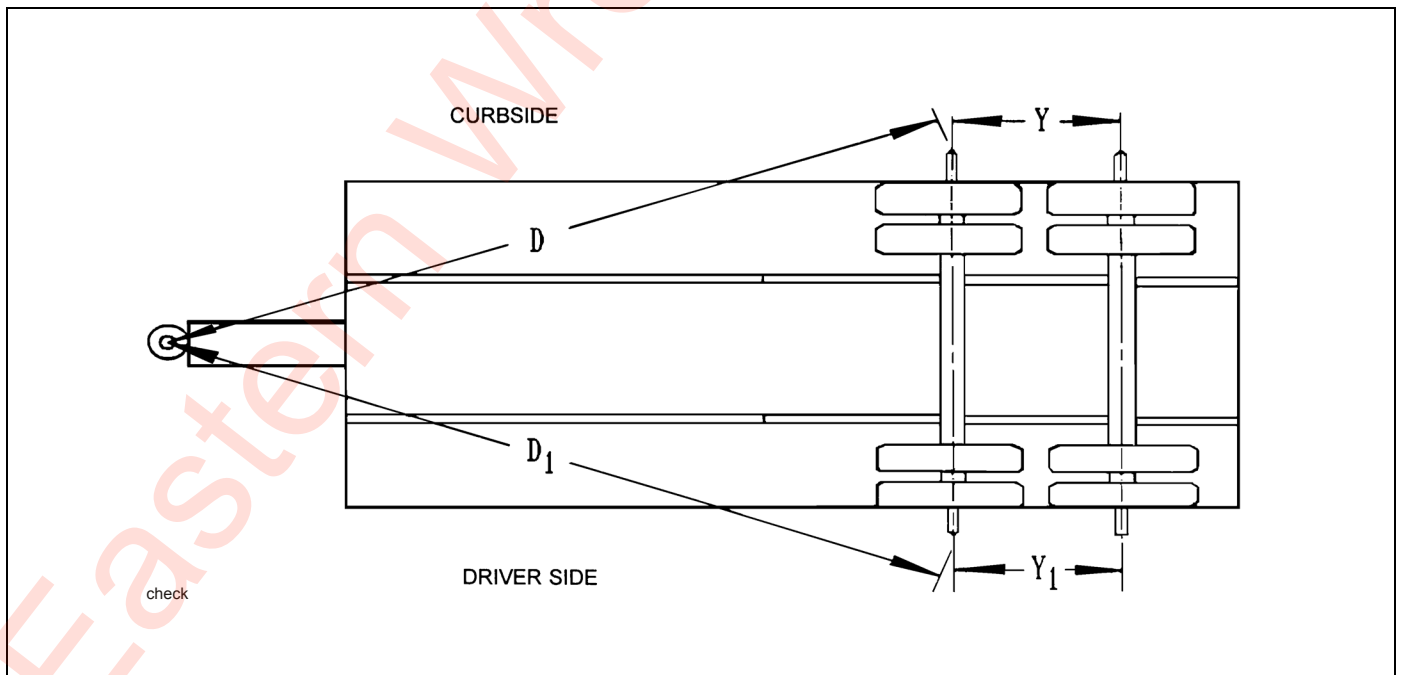

Figure 4-10: Checking Axle Alignment
4. Measure (D) from the plumb bob to the center point on one end of the axle. Record this measurement **(See Figure 4-10.)**
5. Measure (D1) to the other end of the axle in the same manner as in **step 4**. Record this measurement **(See Figure 4-10.)**